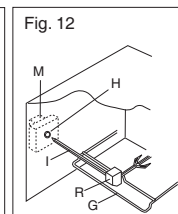

Fig. 12
- Put the support **G** completely into the oven so that the bar **I** goes into the socket **H** of the turnspit motor **M** (fig 12).